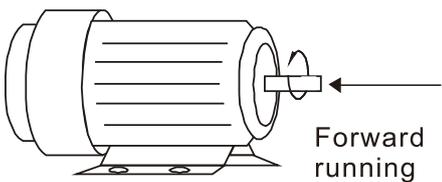

Figure 5-1
- ☑ When the AC drive output terminals U/T1, V/T2, and W/T3 are connected to the motor terminals U/T1, V/T2, and W/T3 respectively, the FWD LED indicator on the digital keypad is ON. This means the AC motor drive executes running forward, and the motor rotates counterclockwise (viewed from the shaft end of the motor, as shown in Figure 5-1).
On the contrary, when the REV LED indicator lights, the AC motor drive executes running in reverse, and the motor rotates in an opposite direction to Figure 5-1. If the AC motor drive executes running forward but the motor rotates in a reverse direction, exchange any two of the U/T1, V/T2 and W/T3 motor leads.